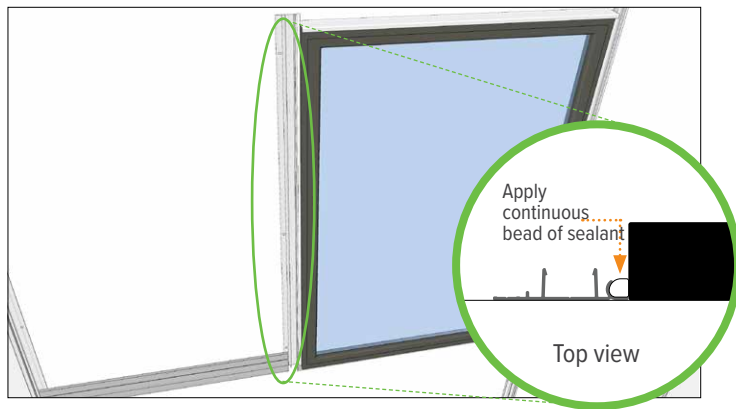

Figure 18.4
3. Apply a continuous bead of sealant to EZ.19 back plate caulking channel. (Figure 18.4).